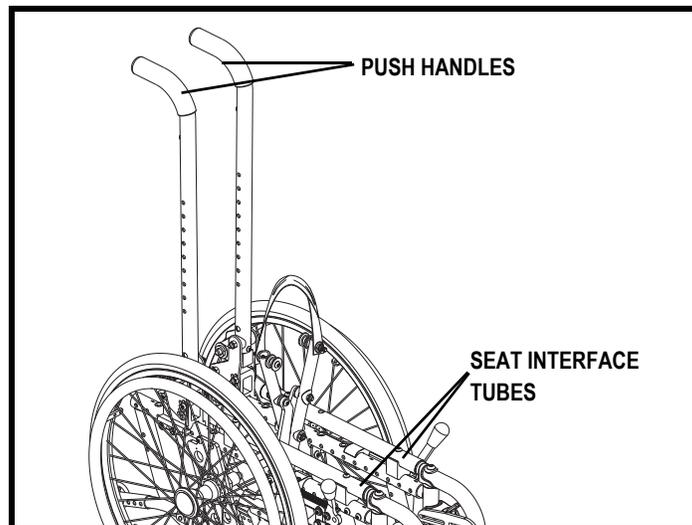

Figure 9. Lifting Points
2. With one hand, grab and squeeze together both push handles. See figure 9.